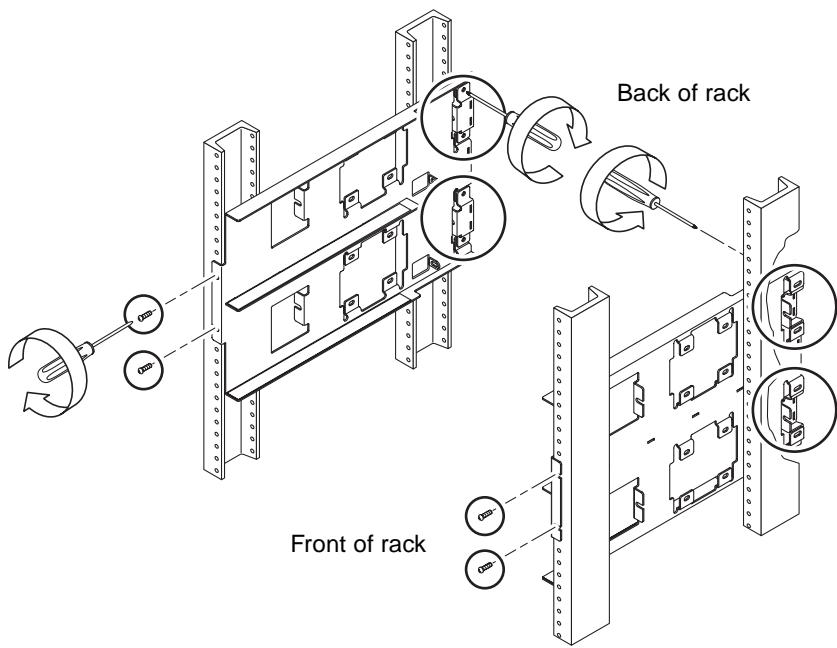

FIGURE 6 Attaching the Side Rails to the Rack
3. Position the left side rail in the rack in the lowest empty slot, aligning the holes in the rail with the holes in the rack (FIGURE 6).